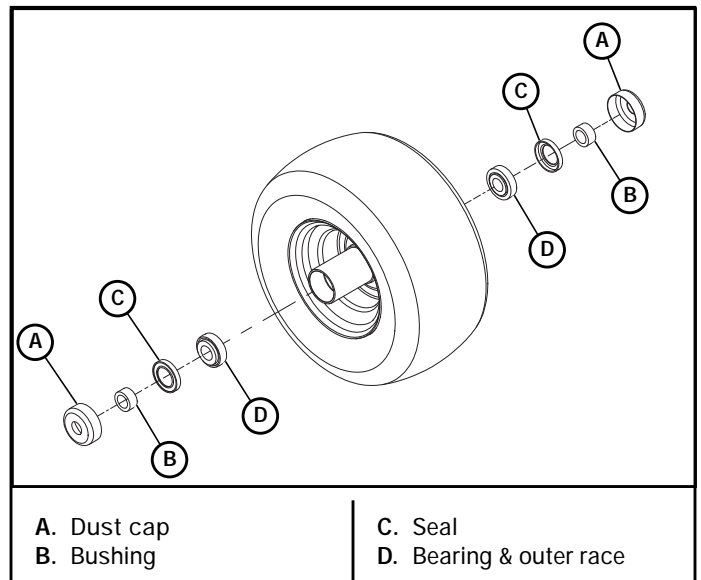

Figure 6-30
- Remove the dust caps and bushings from the wheel housing. Retain these parts. Figure 6-30
- Remove and discard the seals. Figure 6-30
- Remove and discard the tapered roller bearings and outer bearing races. Figure 6-30